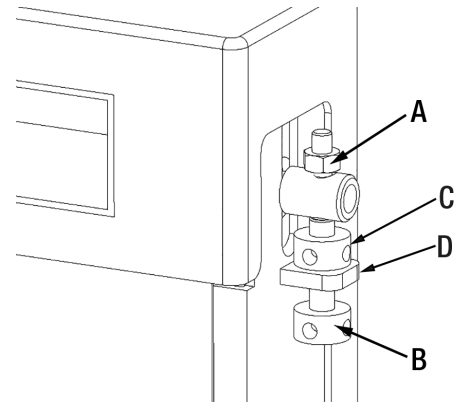

Figure 13
2. If an adjustment is needed, loosen hex. nut (A) Fig.13.
3. Turn tracking tension nut (B) in small increments at a time. Turn tension nut clockwise if the belt tracks towards the right. Turn tension nut counterclockwise if the belt tracks towards the left. Finger tighten the adjustment nut (C) against the plate (D) when the belt is tracking correctly.
4. Verify your adjustment, turn the sander on for a few seconds and check sanding belt tracking. Adjust further if needed until the sanding belt runs perfectly straight between the rollers. Retighten hex. nut (A) Fig.13.